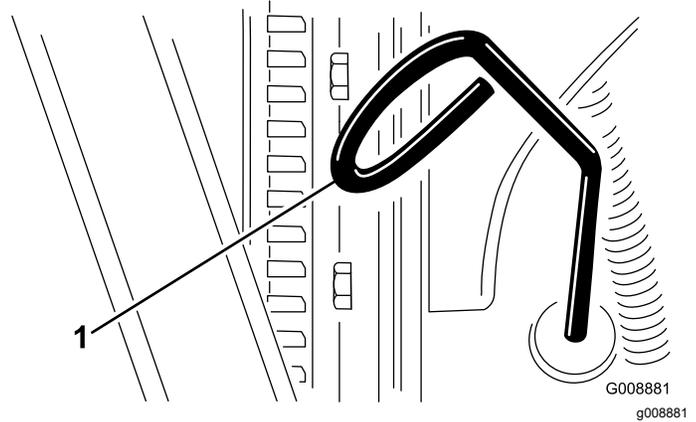

Figure 53
3. Remove the dipstick, wipe it clean, and install it (Figure 53).